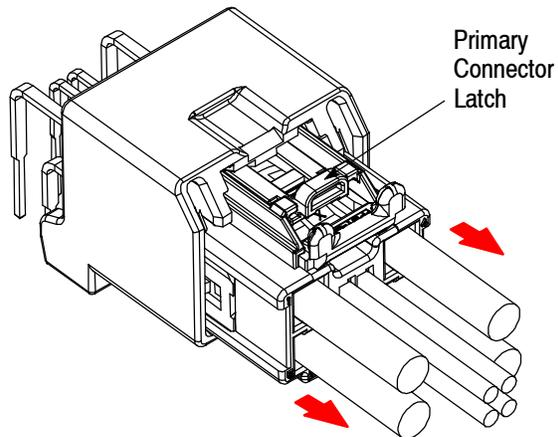

Figure 10
2. To unmate the connector, with the CPA in Position 1, depress the primary connector latch, then simultaneously pull the connector/wires while gripping the housing with the thumb, index finger, and palm (wire bundle). See Figure 10.